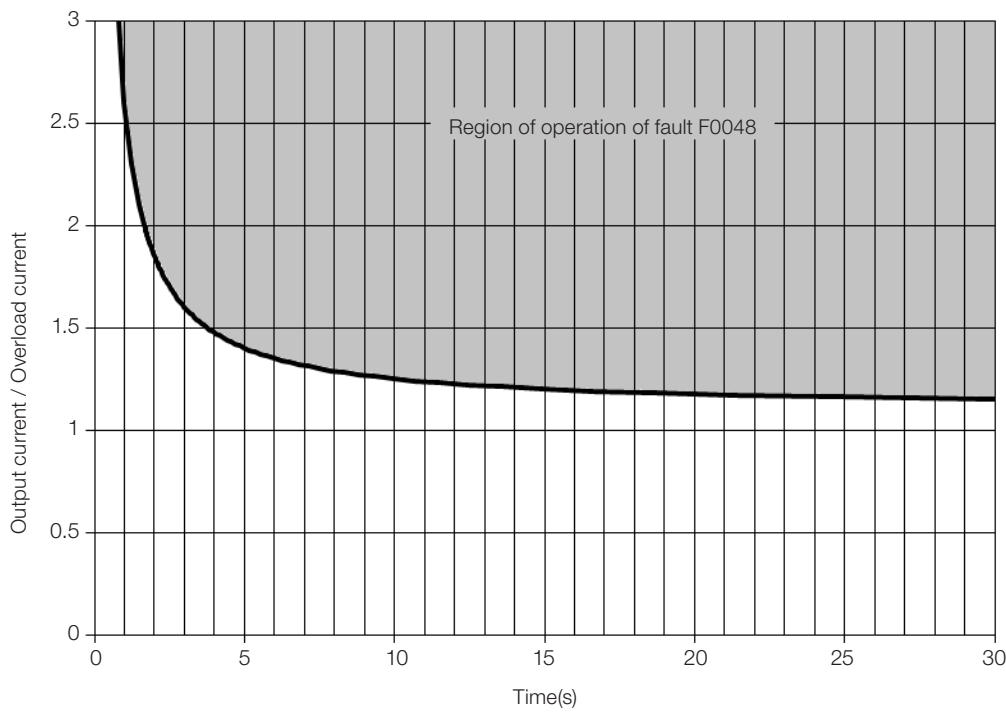

Figure 17.3: Actuation of the overload of the IGBTs (Normal Duty - ND)
In normal duty (ND), fault F0048 occurs around 4 seconds for 150 % of overload, as shown in Figure 17.3 on page 17-4. Likewise, the fault will not occur for current values below 110 % of the inverter rated load.